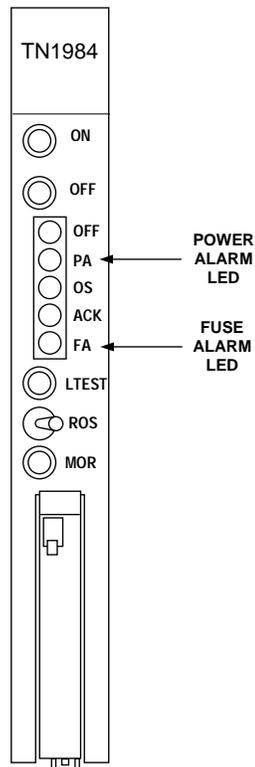

Figure 1. The TN1984 Circuit Pack
1. Does the SCU have a **blown fuse** (FA Light Emitting Diode [LED] lighted on the TN1984 circuit pack) or a **power alarm** (PA, OFF, and OS LEDs lighted on the TN1984 circuit pack)? (See Figure 1.)